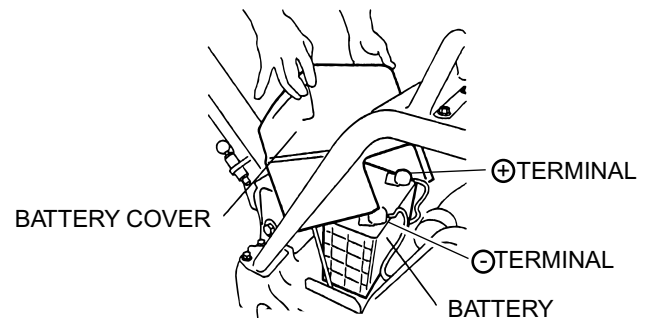

Figure 36. Removing Battery Cover
- When removing battery cables, disconnect the ground side (normally negative) first (Figure 36).